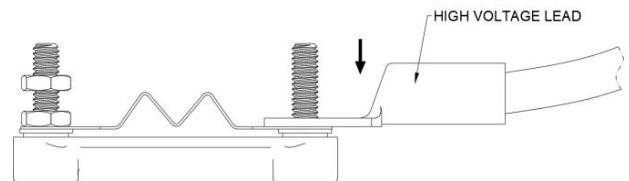

Figure 2
Step 2 Mount the lug of high voltage lead onto the stud of the Isolation Link (Figure 2).